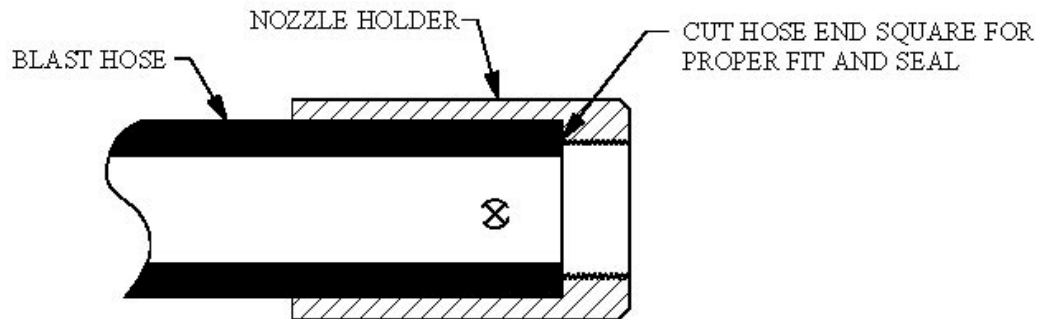

Figure 8.4 – Hose End Fit up
- 8.8. **Blast and Air Hoses:** All air hose, blast hose, and threaded couplings have gaskets that seal the connection. To reduce loss of air pressure and/or premature abrasive wear replace these gaskets when leaks are found. Inspect the couplings daily for leaks and wear. Replace gaskets when visible wear or leaks are found. When installing or replacing hose couplings cut the hose end square for secure fit (see Figure 8.4). To insure proper coupling connection always use fittings that are the same brand. See the drawings and part lists in Section 9.0.